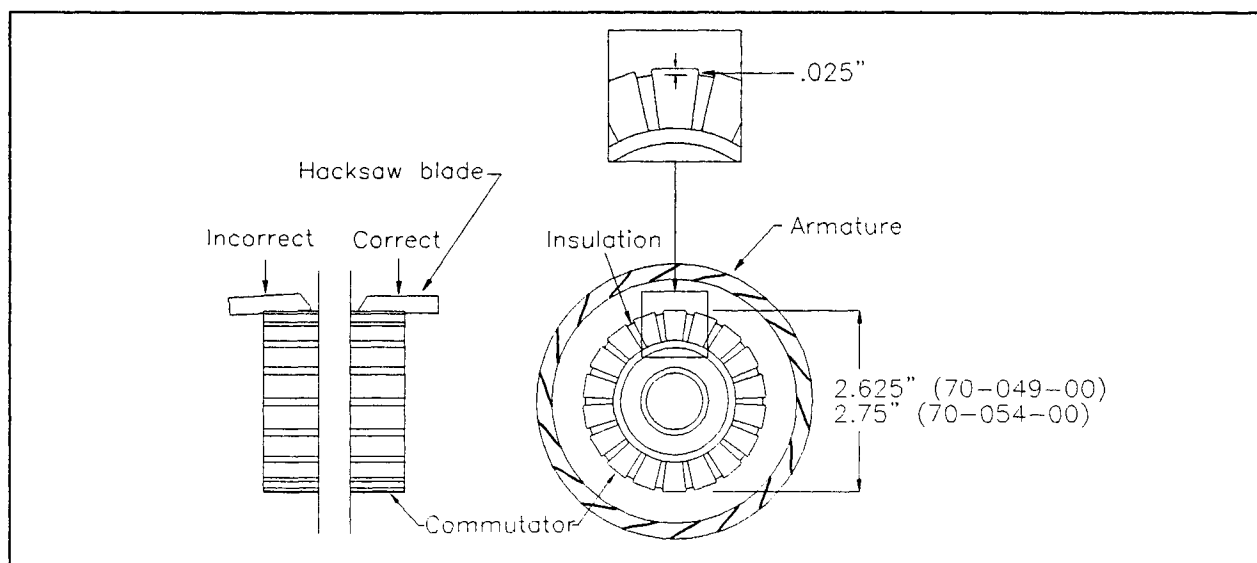

Figure 3-12
- Measure the undercut on the commutator. If it is less than .025", then the mica must be undercut (see Figure 3-12).
- Measure the commutator diameter. If it is less than the minimum operational diameter, then the armature is worn out and the motor must be replaced (see Figure 3-12).